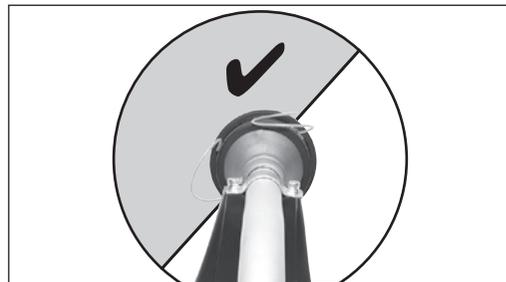

Fig.21
9.2 Operating the Line Trimmer (Fig.21 – Fig.23)